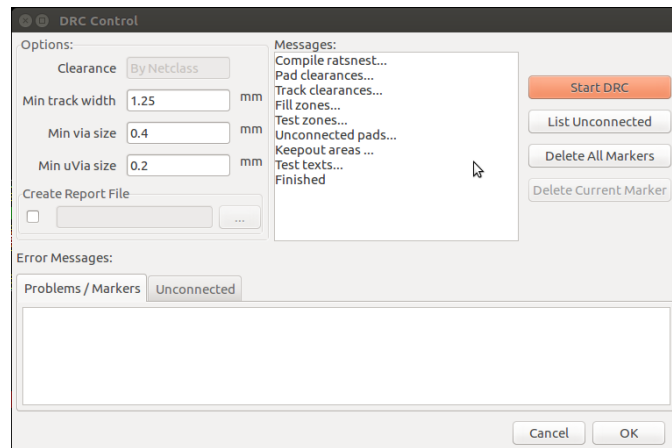

Figure 13.21: DRC Control Window
2. Click on Perform Design Rules check button from the top menu bar of Pcbnew. DRC Control Window will pop-up as shown in Fig. 13.21.
errors in the design present, there will not be any errors in the message window as shown in Fig. 13.21